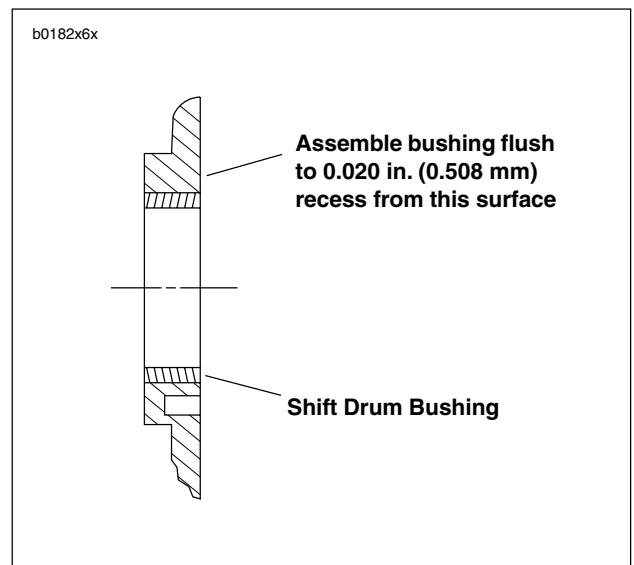

Figure 6-53. Shift Drum Bushing Assembly
2. See Figure 6-53. Lay bushing squarely over bore. Locate socket or pipe that is slightly larger than diameter of bushing. Place socket or pipe on bushing and press into bore until bushing is flush with or 0.020 in. (0.508 mm) below inside surface. If using a pressing tool larger than diameter of bushing, the pressing tool will bottom against door when bushing is flush with top surface.